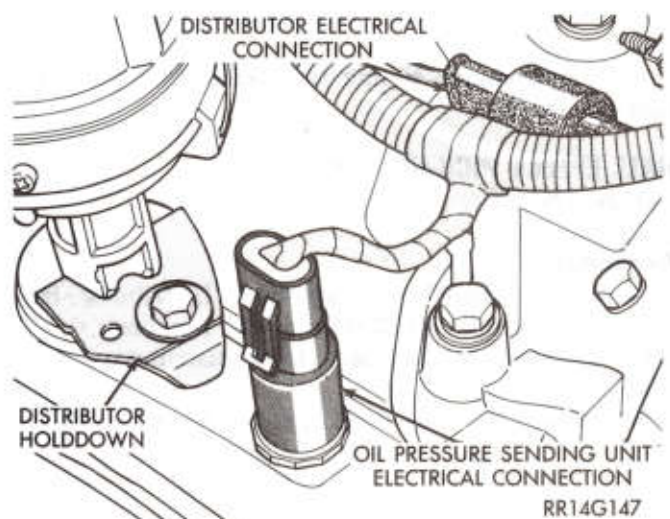

Fig. 10—Distributor Hold-Down
(7) Loosen distributor hold-down arm screw just enough so the distributor housing can be rotated in its mounting (Fig. 10). Turn distributor housing until specified label value is reached. Tighten the hold-down arm screw and recheck timing.
(8) Turn the engine off. Remove timing light or magnetic timing unit and tachometer. Reconnect coolant temperature sensor connector **Erase fault codes with sensor test #10**. Refer to Group 14 General Diagnosis, "On Board Diagnostics".